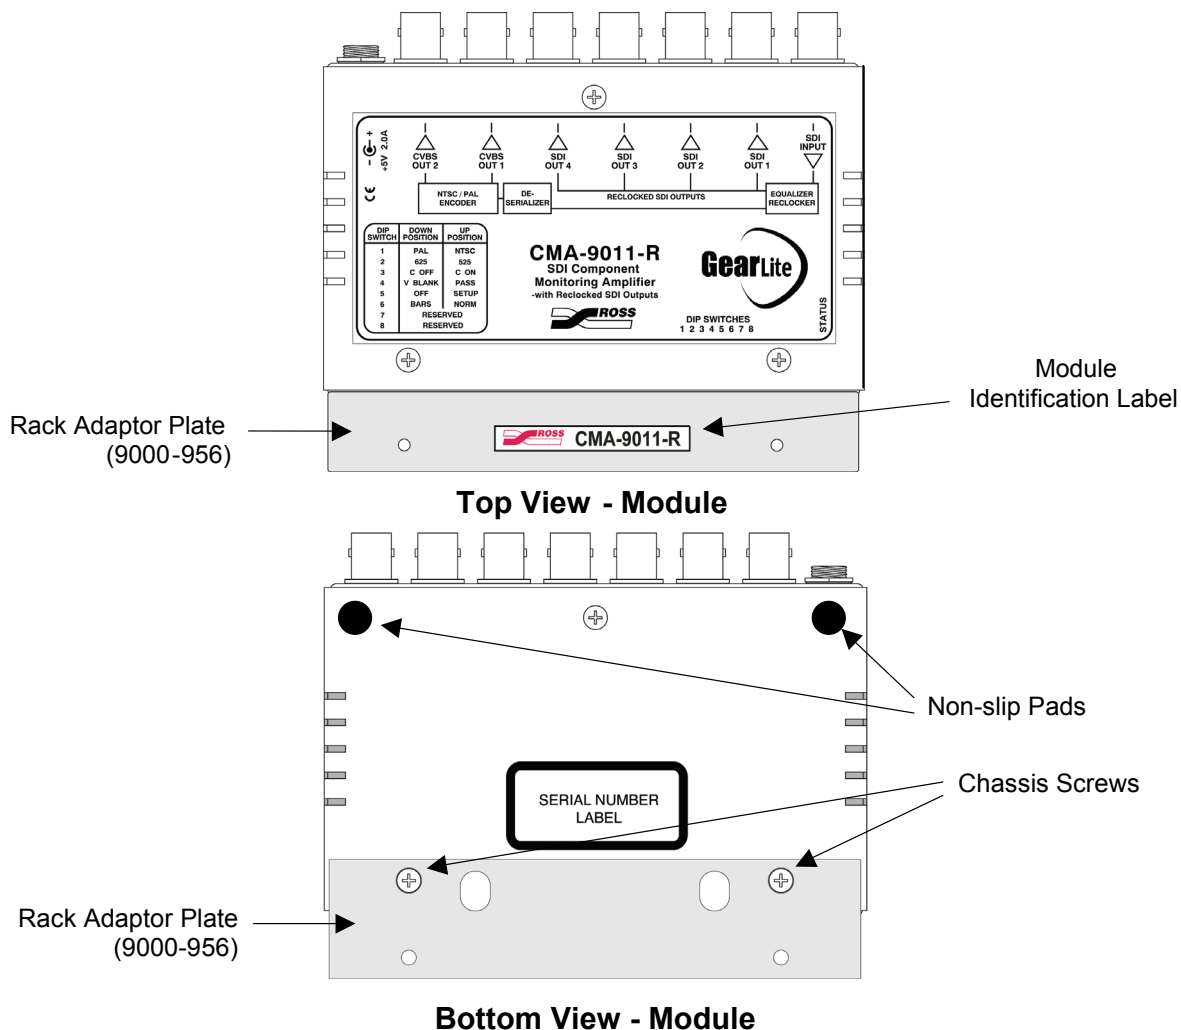

Figure 1. Top and Bottom Views
1. Using a Phillips screwdriver, remove the two Chassis Screws from the bottom of the GearLite module chassis. See Figure 1 for details.